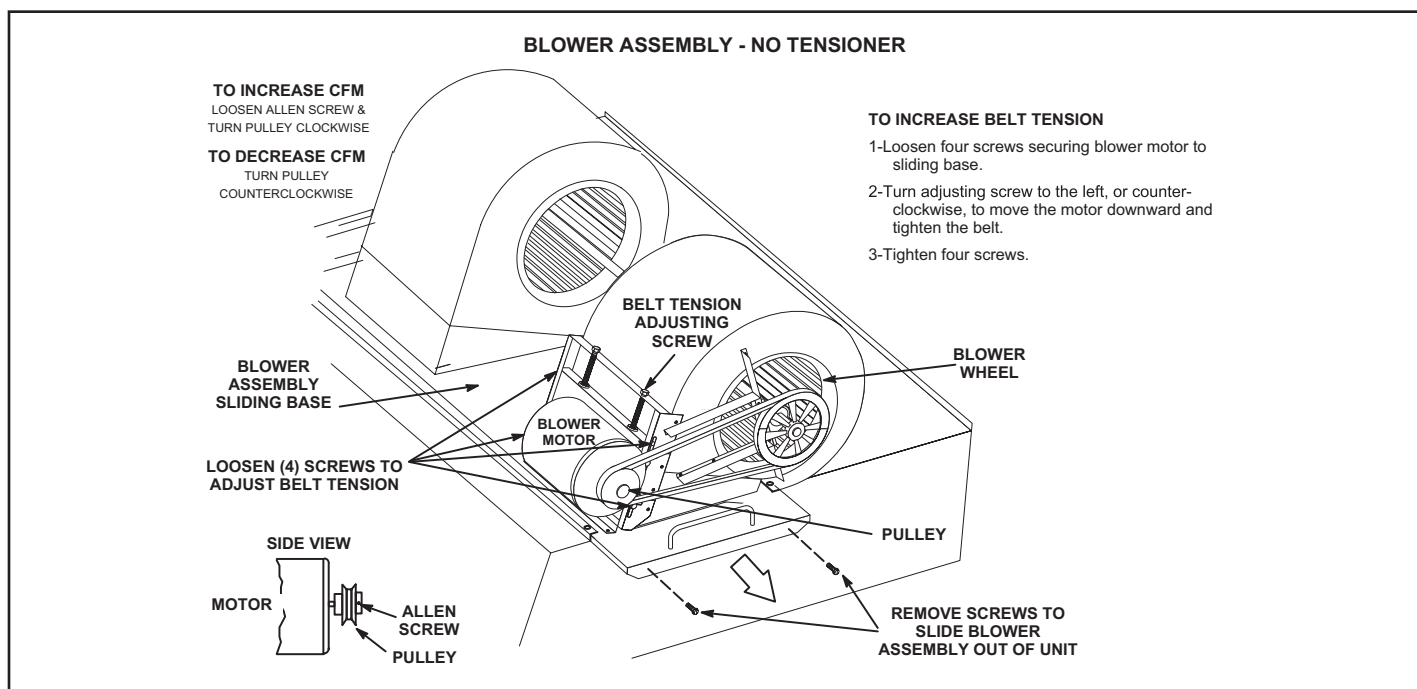

FIGURE 22
The blower compartment is located between the evaporator coil and the compressor / control section on the opposite side of the condenser coil. The blower assembly is accessed by disconnecting the blower motor wiring (and all other plugs) and removing the screws on either side of the sliding base. The base pulls out as shown in FIGURE 22.
- 2 - Remove screws on either side of blower assembly sliding base. See FIGURE 22.
- 4 - The blower RPM can be adjusted at the motor pulley. Loosen Allen screw and turn adjustable pulley clockwise to increase CFM. Turn counterclockwise to decrease CFM. See FIGURE 22. Do not exceed minimum and maximum number of pulley turns as shown in TABLE 9.
- 1 - Loosen four screws securing blower motor to sliding base. See FIGURE 22.